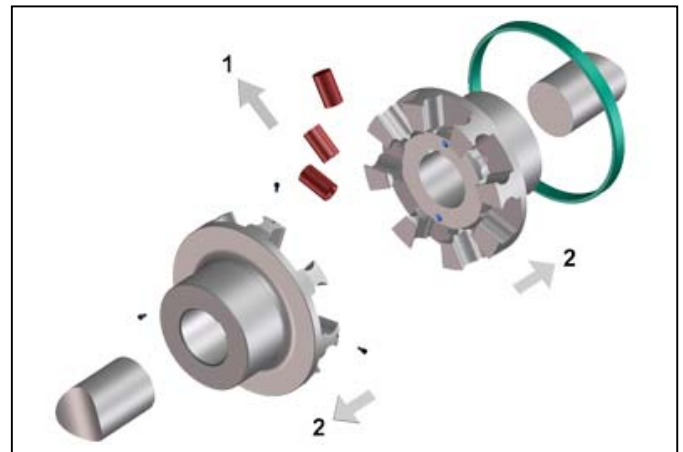

Fig. 3
- Take out the elastic buffers (Fig. 3, Pos. 1).
- Mount the coupling hubs in the proper position on the shaft ends (Fig. 3, pos.2).